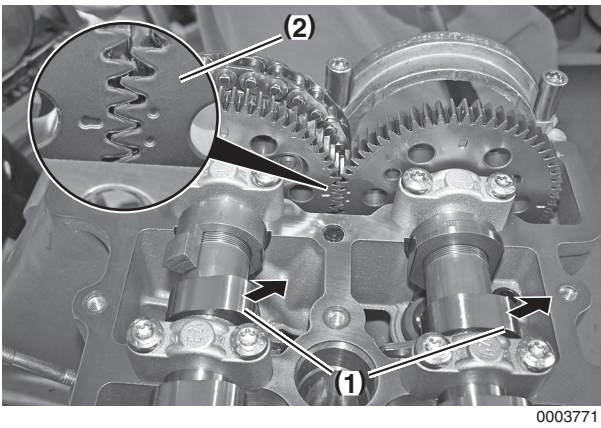

Figure 5-94
11. Rotate the crankshaft in the normal running direction until No. 1 cylinder is at TDC of the power stroke. The front lobe of each camshaft (**Figure 5-94, (1)**) will be facing toward the exhaust side and the timing marks (**Figure 5-94, (2)**) will meet.
12. Verify position by checking that the camshaft timing marks (**Figure 5-94, (2)**) on gears are aligned. The single mark on intake camshaft gear must fall between the two marks on the exhaust camshaft gear.